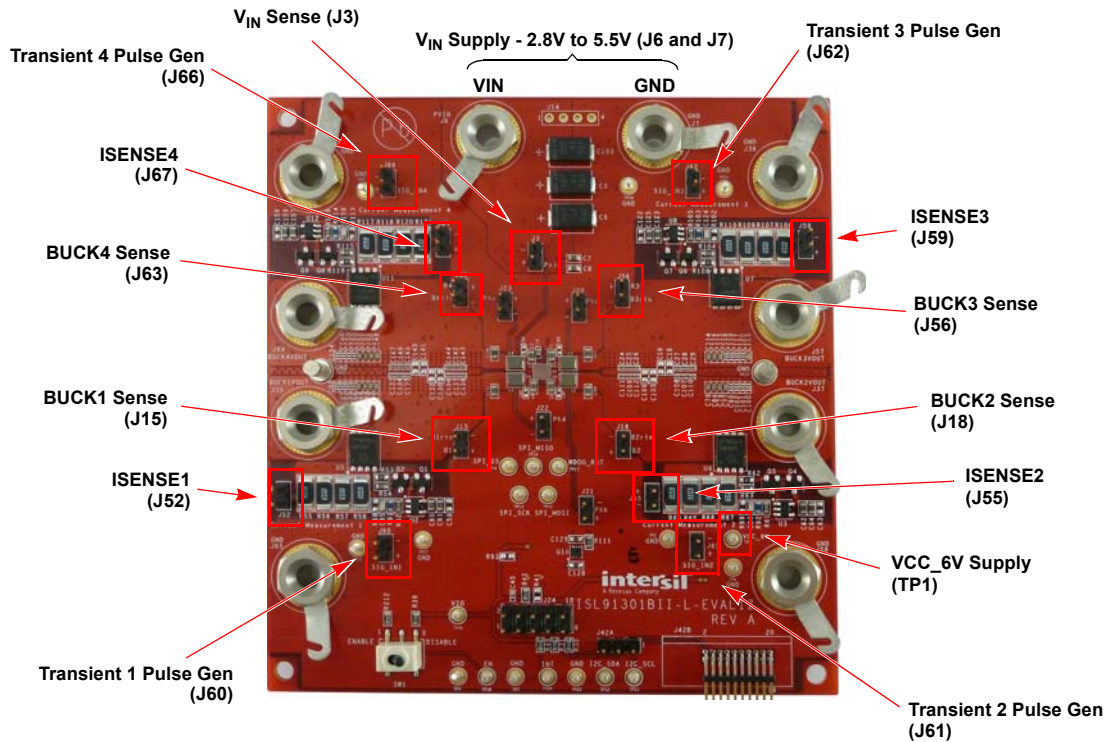

Figure 12. ISL91301BII-L/H-EV1Z Load Transient Measurement Connections
- (1) Complete the setup procedure. The ISL91301BII-L-EV1Z should already be powered up with 2.5V to 5.5V at J6 (VIN supply) and 6V at TP1 (VCC\_6V). The ISL91301BII-H-EV1Z should already be powered up with 2.8V to 5.5V at J6 (VIN supply) and 6V at TP1 (VCC\_6V).
- (2) Connect a slew rate controllable signal generator to transient load circuit input, J60 (TRANSIENT 1 PULSE GEN), J61 (TRANSIENT 2 PULSE GEN), J62 (TRANSIENT 3 PULSE GEN), or J63 (TRANSIENT 4 PULSE GEN).
- (3) Program the signal generator to pulse mode. Set the frequency to 100Hz, the ON duration to 200 $\mu$ s, and the signal amplitude from 0V to 2V. The load transient circuit starts to turn on when the input is ~2.6V. When in doubt, always connect the signal generator output to an oscilloscope set to a 1M $\Omega$  termination. The slew rate of the pulse, both rising and falling, should be conservatively slow, for example, 1 $\mu$ s.
- (4) Connect a differential probe to monitor load current across the sense resistors J52 (ISENSE1), J55 (ISENSE2), J59 (ISENSE3), or J67 (ISENSE4). The load current can be accurately converted to a voltage at 1A/10mV. Ensure the vertical scale of the oscilloscope is set properly to display the full amplitude of the load profile.
- (5) Connect a second differential probe at the VOUT sense points connected to the VOUT decoupling capacitors, J15 (BUCK1 SENSE), J18 (BUCK2 SENSE), J56 (BUCK3 SENSE), or J63 (BUCK4 SENSE).
- (6) Set the oscilloscope to measure the rise and fall times and maximum level of the load current. Slowly increase the signal generator amplitude and slew rate until the desired load profile is achieved. For detailed setup information, refer to Figure 12 on page 13.